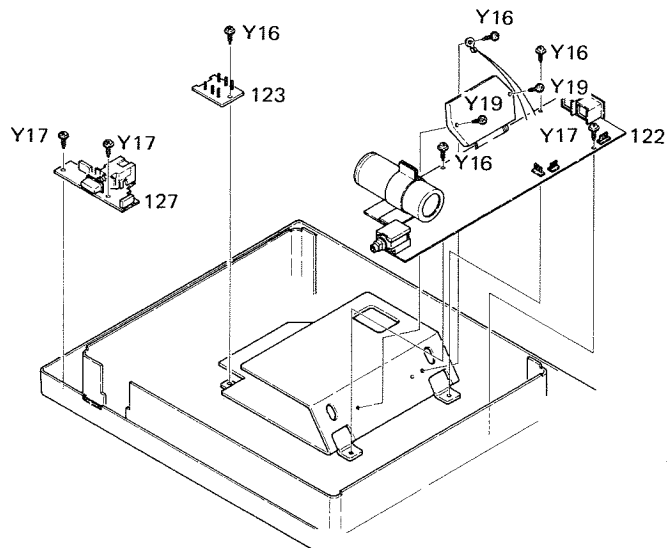

Fig. 8
- Remove the six screws (Y16 = 3, Y17 = 1 & Y19 = 2), and the power amplifier PCB (122) will come off.
- Take out the power amplifier connector PCB (123) after removing the screw (Y16). (cf. Fig. 8)
- Take out the power supply PCB (127) after removing the two screws (Y17). (Fig. 8)